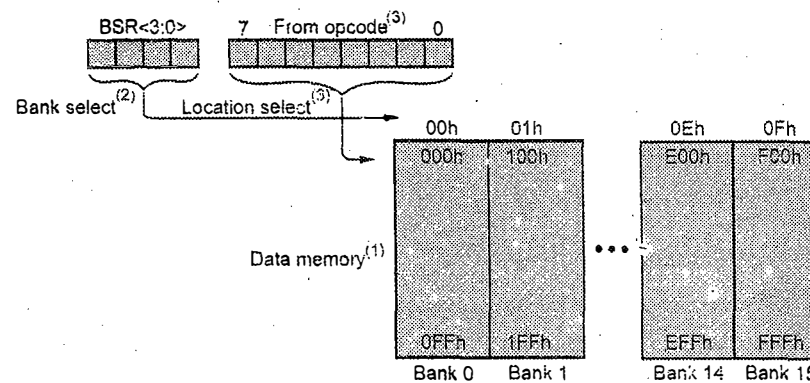
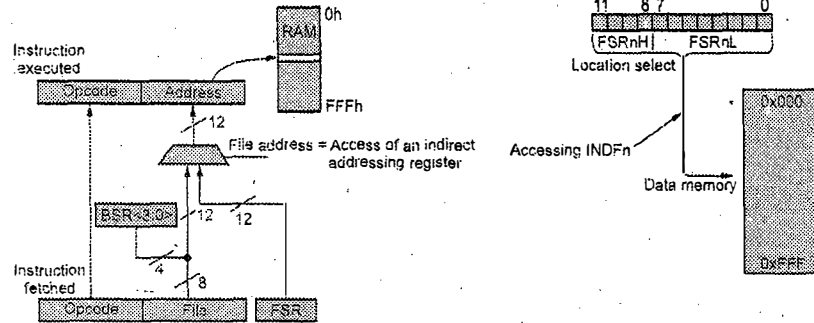

Fig. Q.6.3 : Memory addressing
Fig. Q.6.4 : Indirect addressing
- Memory can be addressed directly and indirectly as shown in Fig. Q.6.3 and Fig. Q.6.4.